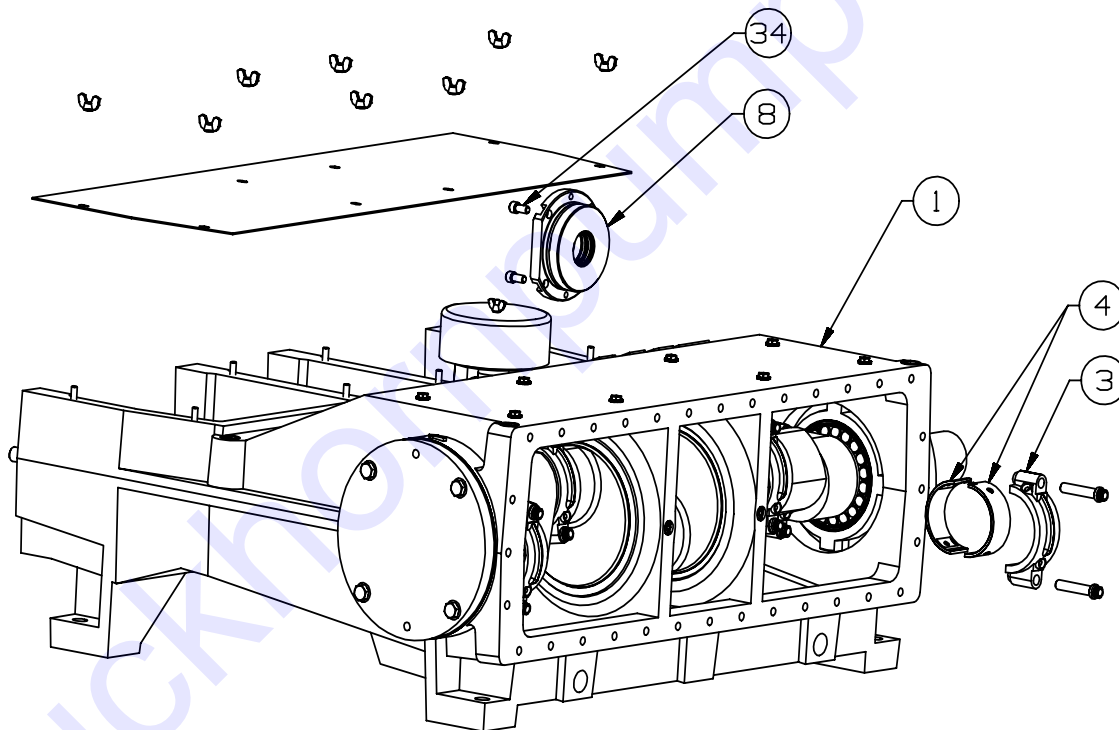
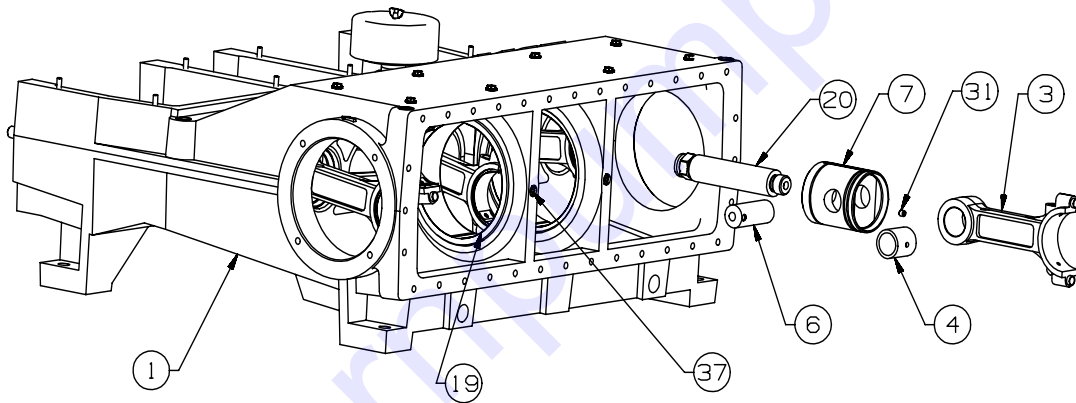

Figure 9: Replacing the Shell Bearings
Figure 12: Removing the Cross Head and Con Rods
4. Remove the end cap of the connecting rod (3) by unscrewing the two cap screws that hold each cap to the rod body. See Figure 9.
5. Slide the rod bearings (4) from the connecting rods and rod caps. Note that these parts sometimes adhere the crankshaft pins. See Figure 9.
7. Unbolt the four cap screws (34) holding the plunger rod seal housing (8) to the power frame (1). Pull the seal housing over the end of the extension rod (20) and out of the cradle. See Figure 9.
8. Push the connecting rods (3) and crossheads (7) as far forward into the power frame (1) as possible to provide clearance for the crankshaft (2). This will provide additional clearance when removing the crankshaft.
9. Using a feeler gage check the clearance between the center bearings (19) and the crankshaft (2). If the clearance is more than .010" the bearing must be replaced. Detailed instructions about this will follow below.
12. Bearings cones (17) can be removed from the crankshaft using an automotive type bearing puller. Bearing cups (18) can be removed from the bearing housings (11 & 12) using a puller if a sufficient lip is available for the puller arms to grab. An alternate procedure involves running a weld bead around the inside surface of the cup. When cool, this will reduce the interference between the cup and bearing housing enough to free the cup. Always replace with new bearing cups and cones.
13. Pull connecting rod and crosshead assemblies from the power frame (1). Take care to insure they are reassembled into the same bore from which they were removed. See Figure 12.
15. If the center bearings (19) require replacement remove the lock screw (37) from the power frame (1). The bearings may be driven out of the power frame by pressing or tapping away from the center of the pump. See Figure 12 for the location of these parts.
18. To replace the crankshaft (2) tapered roller bearings, heat the bearing cones to a maximum of 300° F and slide down the shaft unit it is full seated against shoulder.
19. Use a press to seat the new cups (18) in the bearing housing (11 & 12). Never use new bearing cones (17) with old bearing cups (18).
20. If new center bearings (19) were required install them at this time. The bearings must be pressed or tapped into the power frame (1). They have an alignment hole on the outside that needs to line up with the lock screw (37). Use care when installing these. After the lock screw (37) is installed check the inside diameter of the bearing (19) to verify that there is no bulge where the lock screw (37) engages the bearing (19). Torque the lock screw (37) per Section 12.
21. Reassemble the crossheads (7) and connecting rods (3). Install new rod bearing inserts (4). Insure that the set screw (31) retaining the wrist pin (4) is in place if it was removed for repair or inspection of the wrist pin bushing. See Figure 12.
22. Push the crosshead assemblies fully forward in power frame (1) to provide maximum clearance for the crankshaft (2). Insure crossheads (7) are replaced in same orientation and in the same cylinder bore they were originally. The oil cup pocket feeding lubricant to the wrist pin bushing is on the top of the connecting rod (3) and should be in the up position. The cross heads have an oil reservoir which must be on the top.
23. Slide the crankshaft (2) with the bearing cones installed into the power frame (1) using the tool if available.
24. Reinstall the shims (13) and bearing housing (11 & 12). As a starting point, install the same number of shims (13) that the pump originally had prior to service. Inspect the o-rings (25) that seal the bearing housing (11 & 12) and replace if damaged.
25. Replace the rod bearings (4) in the connecting rod caps. Insure that rod caps are assembled with their mating connecting rod. Torque the cap screws holding the end caps to the mating rod per the values given in the Fastener Torque Requirements section of this manual. After the cap screws are torqued, striking the cap with a rubber hammer will help properly seat the rod bearings. See Figure 9.
26. A dial indicator must be used to properly adjust the endplay of the crankshaft (2). Improper adjustment may result in excessive temperature, noise, and reduced bearing life. FMC recommends between .000"-.002" of internal axial clearance (end play) when properly assembled. The final adjustment must be verified using a dial indicator.
27. Turn the crankshaft (2) more than two complete revolutions to insure the connecting rods are loose, there is no binding in the rod bearings, the wrist pin joints are free and the crossheads move freely in the power frame (1).
28. Mount a dial indicator base on back of power frame (1) with the indicator tip on a shoulder of the crankshaft (2) and the axis of the indicator parallel to the crankshaft (2).
29. Move the crankshaft (2) to one side of the power frame (1) using a light tap from a rubber mallet or a pry bar.
31. Move the crankshaft (2) back over to the opposite side and read bearing endplay as total indicator movement. Remove or add shims as necessary to achieve proper endplay (.000" to .002"). Distribute shims equally on both bearing housings (11 & 12). Verify the endplay with the dial indicator per the procedure described before final assembly.
32. Install the oil seal (14) into the bearing housing (11). The oil seal can be installed over the end of the crank shaft (2) and seated in the bearing housing (11) with light hammer blows. When properly seated it will be flush with the face of the bearing housing (11). See Figure 9.
33. Install all of the plunger rod seal housings (8) in the power frame (1). The crankshaft should turn freely.